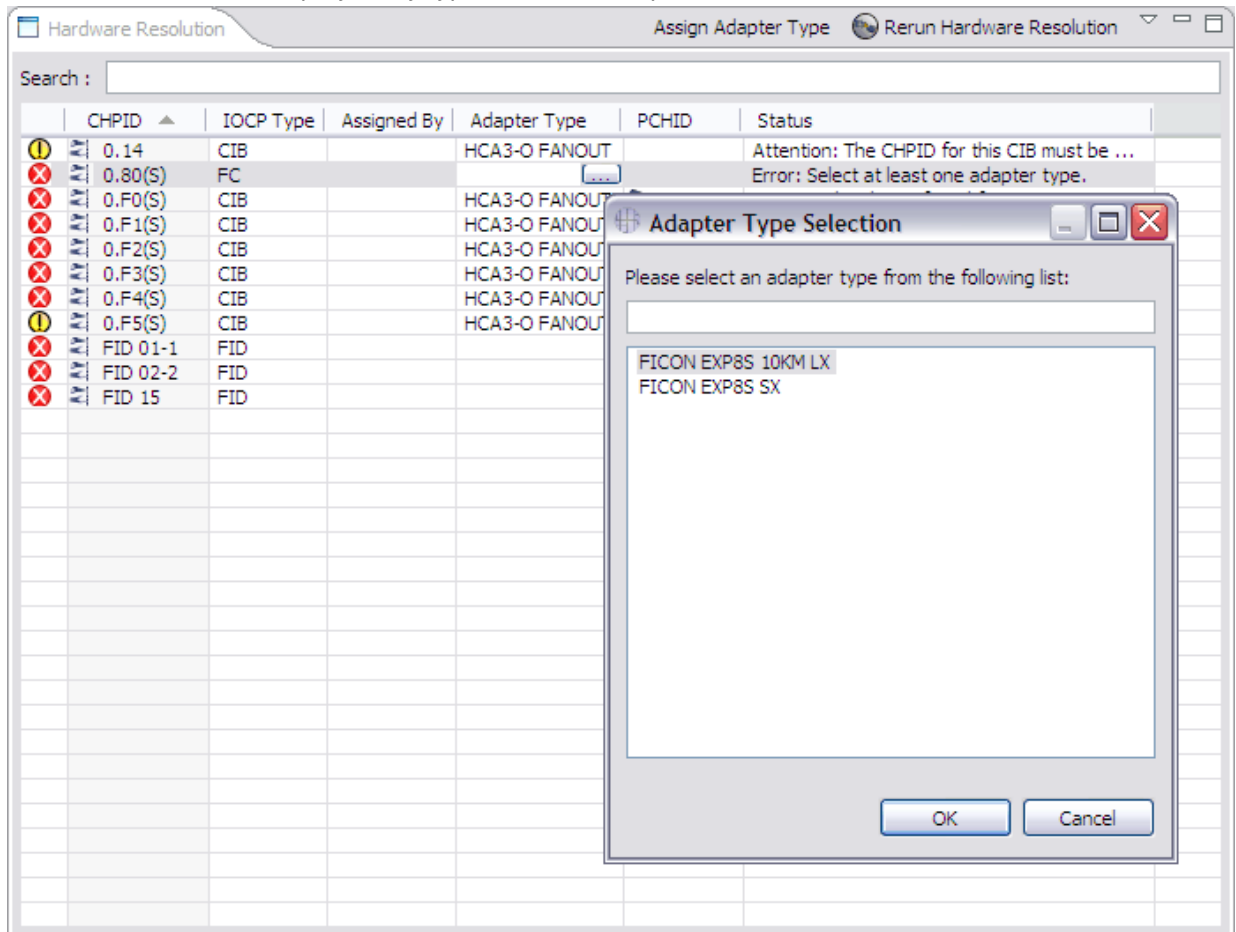

Figure 49. Adapter types list
2. Click the arrow. The tool displays a list of available card types for the CHPID. Figure 49 on page 39 shows a list. The tool displays only types that are compatible for the CHPID.